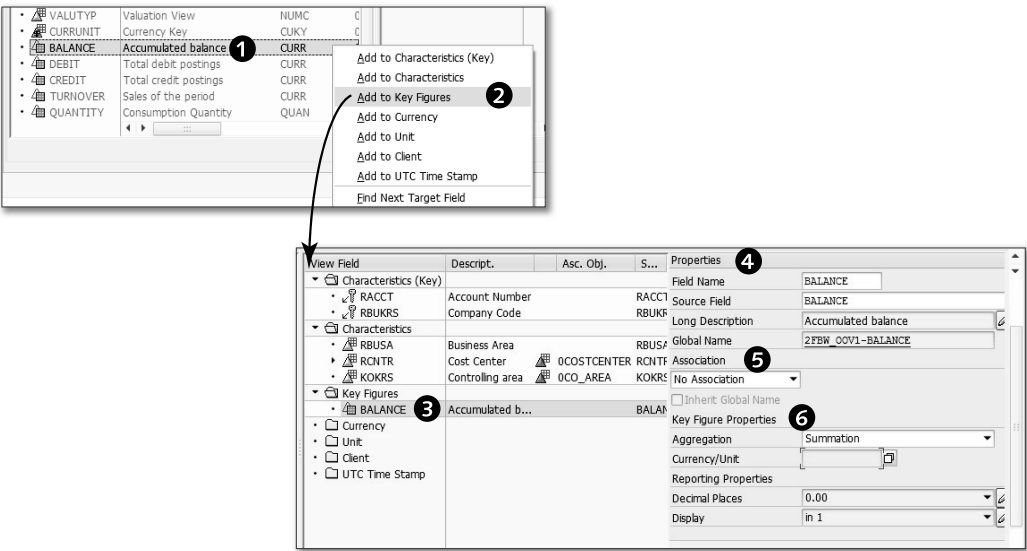

Figure 6.85 Adding Key Figure
Now let’s discuss how to add key figures to an OOV. Select the BALANCE field as shown in ❶ of Figure 6.85. Using the context menu, select ADD TO KEY FIGURES ❷. This action places the BALANCE field in the KEY FIGURES section under the VIEW FIELD column ❸. Each key figure is also associated with a number of properties ❹. A few of these properties are similar to characteristics, which are ASSO- CIATION ❺ and REPORTING PROPERTIES, but some properties, such as AGGREGATION ❻, are only available to key figures.